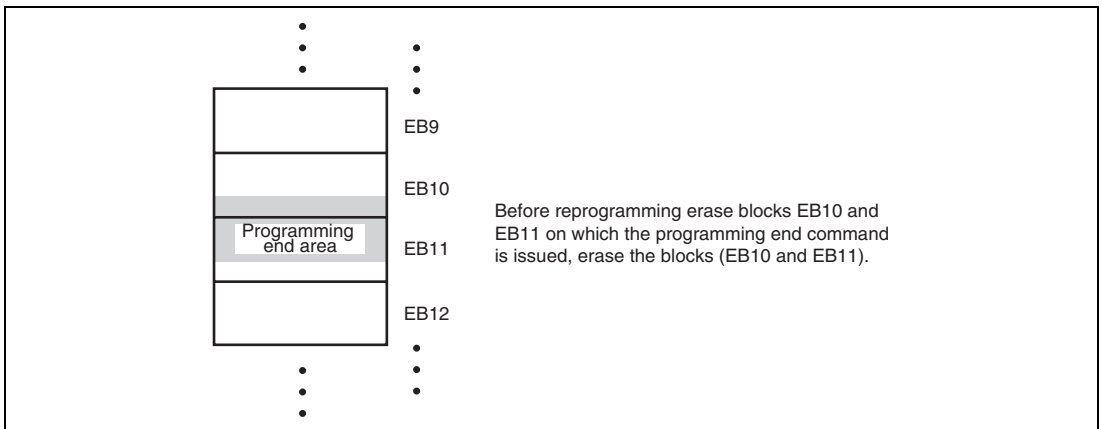

Figure 18.9 Example of Erase Block Including Programmed Area
4. When the program preparation notice is received, the state of waiting for program data is entered. The start address of the programming destination and program data must be transmitted after the programming command is transmitted. When programming is finished, the start address of the programming destination must be set to H'FFFFFFFF and transmitted. Then the state of waiting for program data is returned to the state of waiting for programming/erasing command. When reprogramming an erase block including an area on which the programming end command is issued, erase the erase block. An example of the erase block is shown in figure 18.9. When the erasure preparation notice is received, the state of waiting for erase block data is entered. The erase block number must be transmitted after the erasing command is transmitted. When the erasure is finished, the erase block number must be set to H'FF and transmitted. Then the state of waiting for erase block data is returned to the state of waiting for programming/erasing command. Erasure must be executed when the specified block is programmed without a reset start after programming is executed in boot mode. When programming can be executed by only one operation, all blocks are erased before entering the state of waiting for programming/erasing command or another command. Thus, in this case, the erasing operation is not required. The commands other than the programming/erasing command perform sum check, blank check (erasure check), and memory read of the user MAT/user boot MAT and acquisition of current status information.